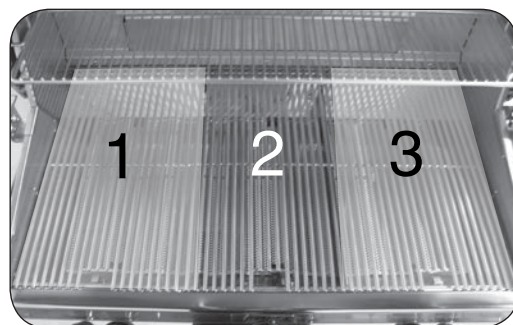

Fig. 26-2 Cooking zones detail
Your grill is divided into three cooking zones, each corresponding to a burner. Burners are numbered starting at one (1) on the left, going to three (3) on the right (see Fig. 26-2). The cooking zones are monitored by the digital thermometer - see DIGITAL THERMOMETER section.